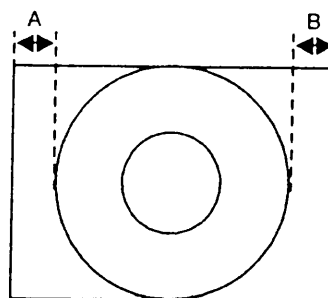

Fig 13.
- 7: left margins are equal (A=B) (see fig 13.) Select 3 H-Size and adjust it so that the